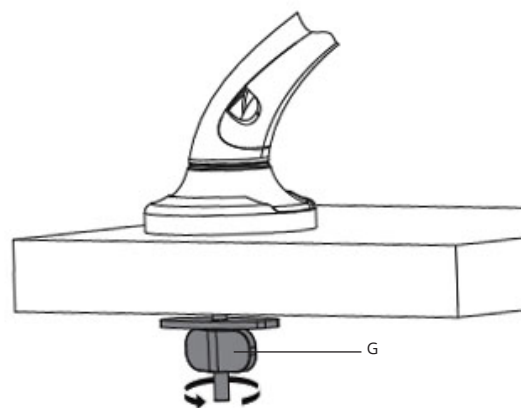

Figure 6
4. Tighten the grommet mount to the desktop by turning the Wing Nut (G) clockwise, see Figure 6.